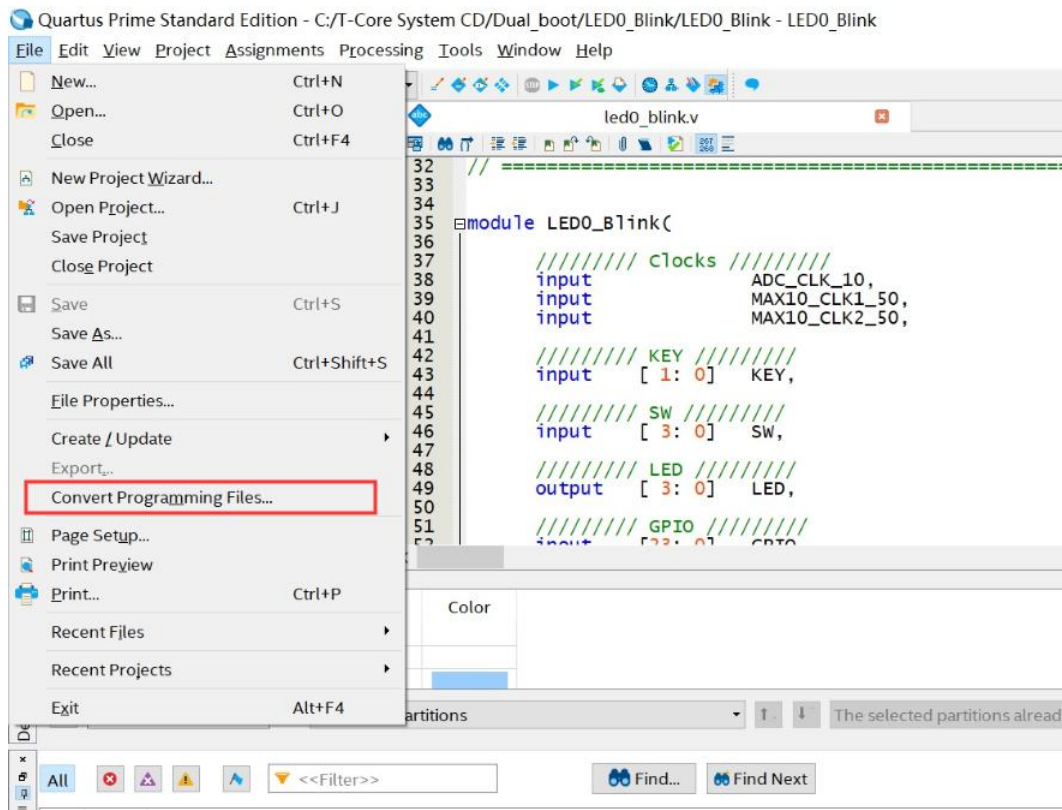

Figure 4-13 Select Convert Programming Files and click
1. Choose **Convert Programming Files** from the File menu of Quartus Prime to open new window, as shown in **Figure 4-13**.